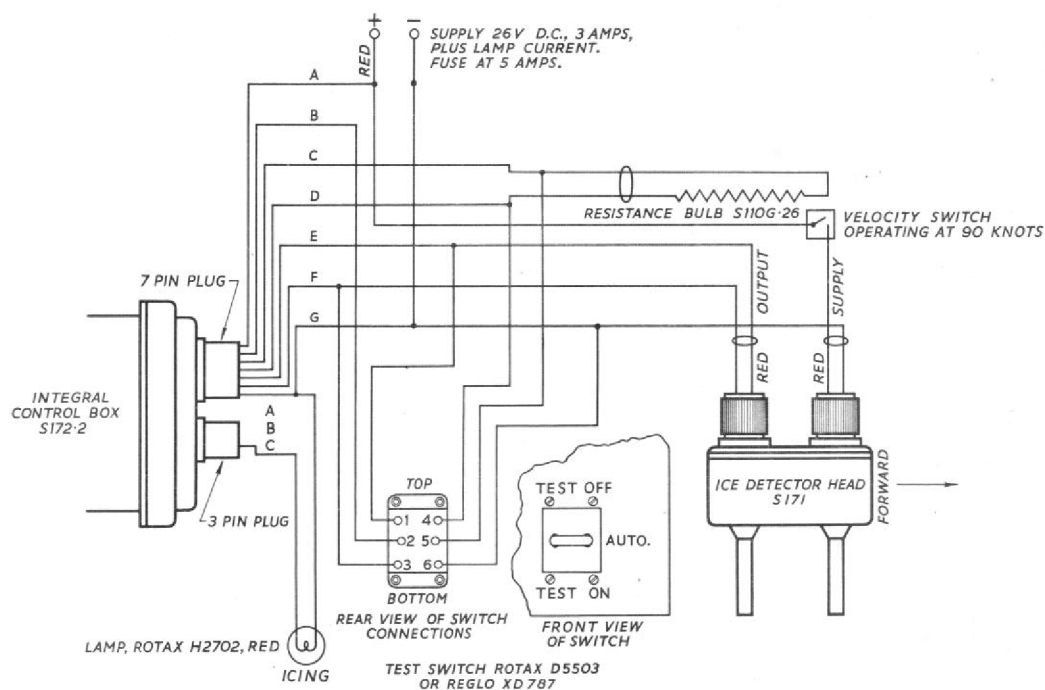

Fig. 7. System Circuit Diagram. Automatic Re-Set.
It is considered desirable to include a Test Switch (see Figs. 7 and 9) as a means of checking that the Control Unit is working correctly. This check may be carried out on the ground or in the air. Each switch should be placed in circuit as shown in Figs. 7 and 9, and reference should be made to the table at the end of this publication for recommended types.
- (a) Connect the Control Unit as shown in Fig. 7, but omit the Detector Head and Resistance Bulb.